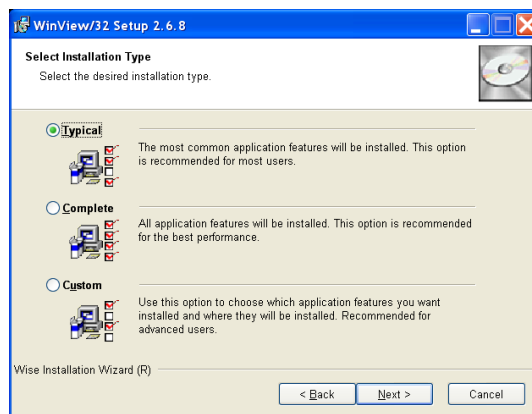

Figure 6. WinView Installation: Select Installation Type dialog
1. On the **Select Installation Type** dialog (see Figure 6), click on **Typical** radio button to install the required drivers and the most commonly installed program files. Select the **Custom** radio button if you would like to choose among the available program files or do not want to install the drivers. **Complete** installs all of the application features.